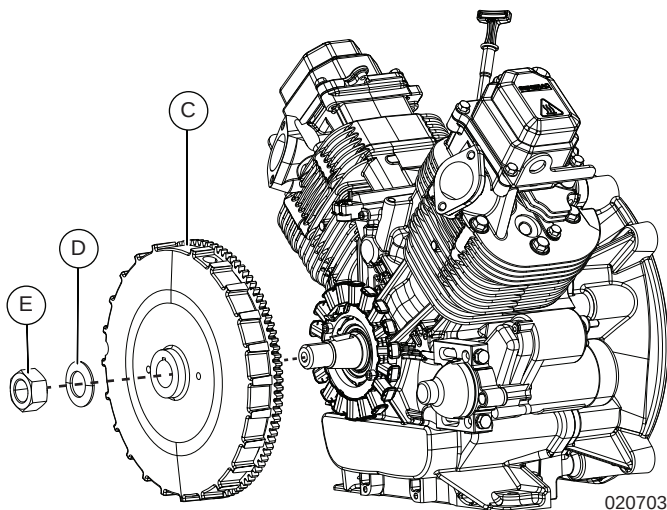

Figure 7-7. Install Flywheel, Washer, and Nut
3. See Figure 7-7. Align keyway and install flywheel (C) on crankshaft.